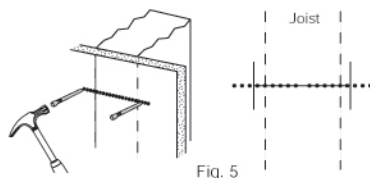

Fig. 5
2.2-Locate the Stud Finding Probes. Remove one. You will use this to find the **exact** center of the stud or joist. Moving along the horizontal line, use a hammer to tap holes through the wall or into the ceiling. Alternating at each side, tap holes along the horizontal pencil line with spacing that is in no more than 1/16" increments, until you have located the outside edge of the stud or joist on both sides. (See Fig. 5)